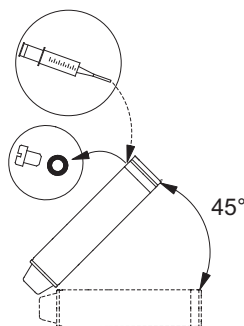

Fig. 2 Motor position during filling – MS6 and MS 6000
- If the motor is delivered from stock, the liquid level must be checked before the motor is fitted to the pump, see fig. 2.
- In the case of service, the liquid level must be checked, see fig. 2.
1. Position the submersible pump as shown in fig. 2.
3. Inject liquid into the motor with the filling syringe, fig. 2, until the liquid runs back out of the filling hole.